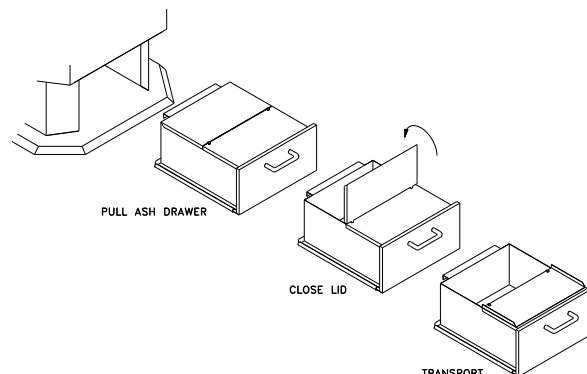

FIGURE 7 Ash removal
5. Cover the plug with the remaining ashes and continue operation of your stove as usual. The Ash Drawer is shown in Figure 7 and can be removed by pulling it out toward you. Lift the Ash Drawer slightly or the pedestal base may get scratched. Close the rear half of the Ash Drawer lid to prevent spillage. Ashes should be placed in a metal container with a tightly fitting lid. This closed container should be placed on a non-combustible floor or on the ground, well away from all combustible materials, pending final disposal. Ensure the rear half of the lid is open before replacing the Ash Drawer.